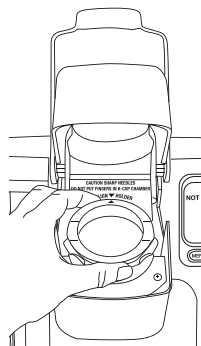

figure 16
12. Replace the K-Cup® holder, ensuring the arrow on K-Cup® rim aligns with the arrow on the brewing chamber. Gently push the K-Cup holder to snap into place (see figure 16).